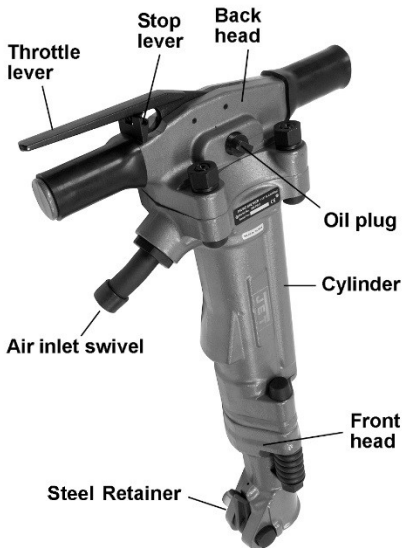

Figure 1 (JCT-4661 shown)
1. Pull down on retainer (Figure 1) to insert steel (not provided). Apply grease to shank of steel before insertion. Push up on retainer to secure steel, then tug on steel to ensure it is properly caught in the bushing.